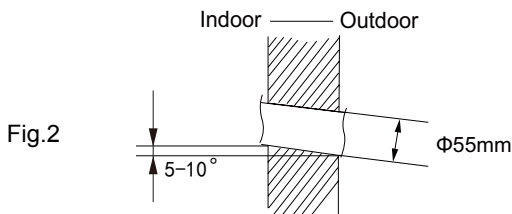

Fig.2
- (2) Open a piping hole with the diameter of Φ55mm on the selected outlet pipe position. In order to drain smoothly, slant the piping hole on the wall slightly downward to the outdoor side with the gradient of 5-10°. (As show in Fig.2)